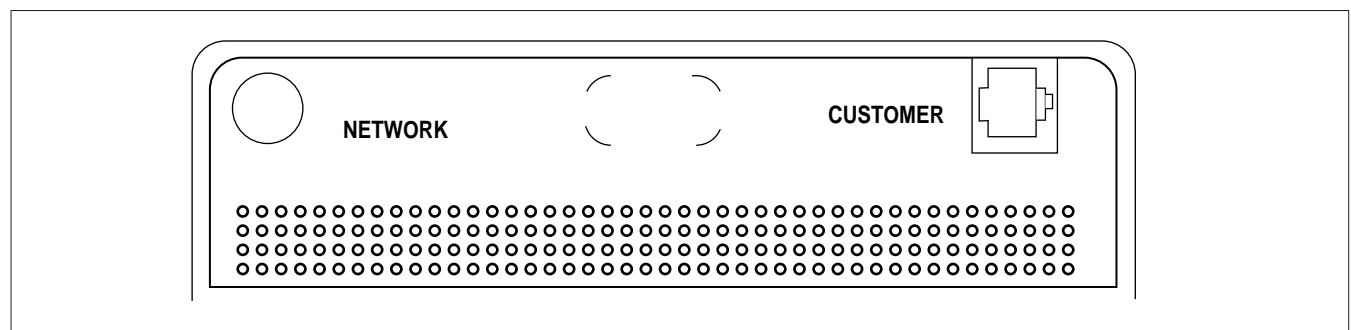

Figure 3. T400 Housing Rear Panel
2.3 The rear panel of the T400 Housing contains a slot for either an RJ-48C jack (factory installed) or an RJ-48X jack (shipped loose) for CPE connections, and a portal for network and power connections (see **Figure 3**).